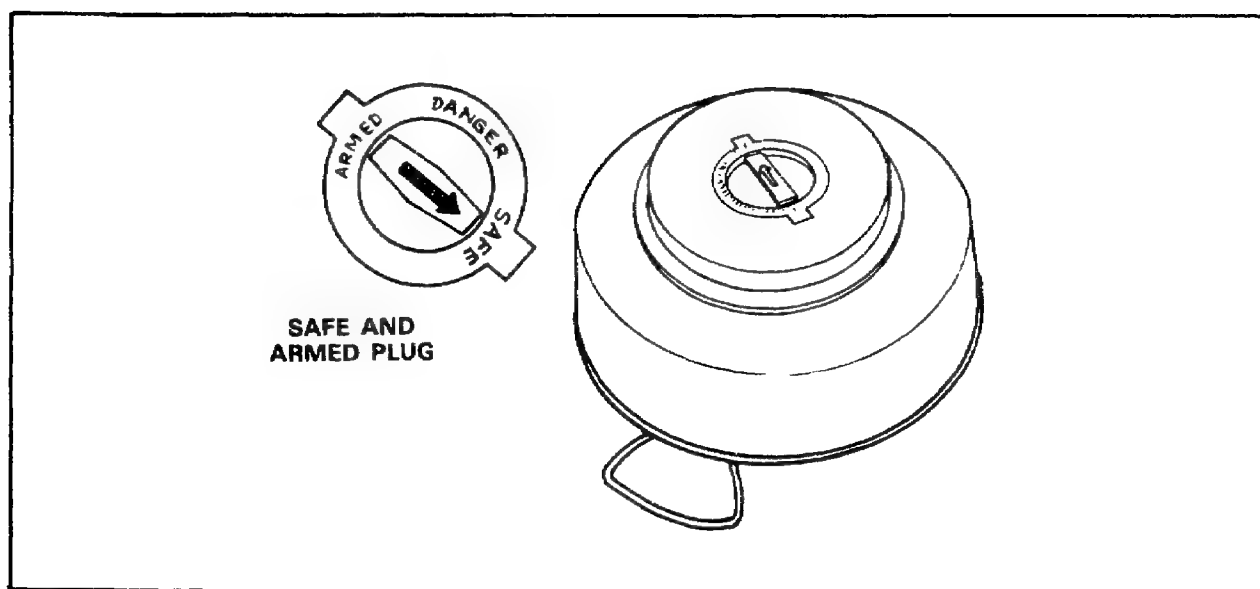

Figure 56. Mine, Antitank, HE, Heavy, M15.
**Mine, Antitank, HE, Heavy, M15.** The M15 antitank mine (Figure 56) is a heavy metallic mine. It is used against heavy tanks, heavy tracked vehicles, and heavy wheeled vehicles. It has a steel cylindrical body approximately 13 inches in diameter and 5 inches high, and it contains more than 22 pounds of high-explosive.